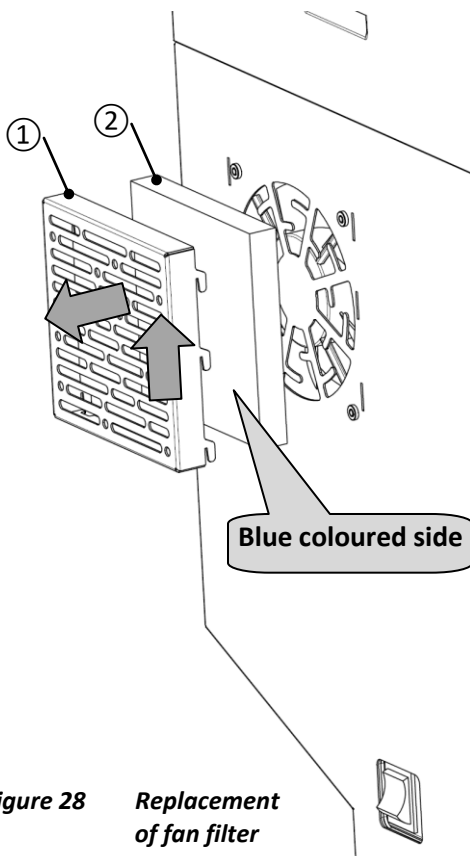

Figure 28 Replacement of fan filter
1. Push the fan cover [Figure 28 / 1] up then pull it out.
2. Take out the dirty air filter [Figure 28 / 2] from the cover.